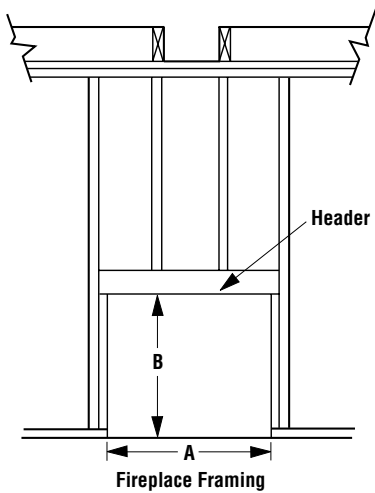

Figure 4
Step 1. Frame appliance enclosure as illustrated in Figures 4 through 7 on page 5.